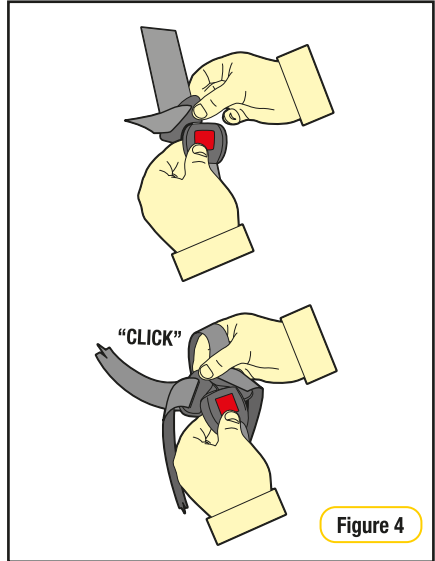

Figure 4
**Step 4:** Insert either tongue into the buckle followed by the other tongue until a **“CLICK”** is heard. Should the second tongue not insert, press the red button and reinsert the tongues. Ensure secure engagement by pulling the harness strap (refer Figure 4).